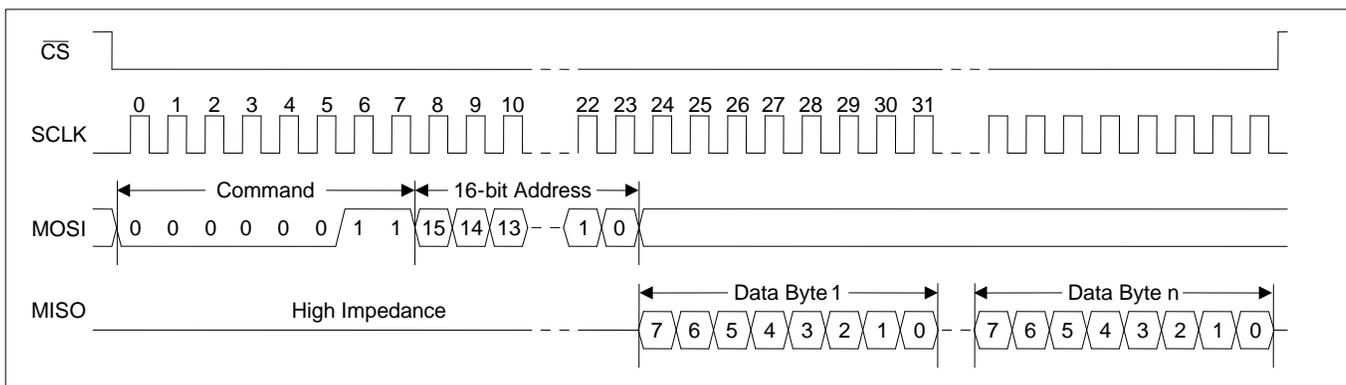

Figure 6 - SPI Read Transaction Functional Timing
**Read Transactions.** The device registers are accessible when  $EESEL=0$ . On ZL3026x devices with internal EEPROM, the EEPROM memory is accessible when the  $EESEL$  bit is 1. On ZL3026x devices without internal EEPROM, the  $EESEL$  bit must be set to 0. After driving CSN low, the bus master transmits the read command followed by the 16-bit address. The device then responds with the requested data byte on MISO, increments its address counter, and prefetches the next data byte. If the bus master continues to demand data, the device continues to provide the data on MISO, increment its address counter, and prefetch the following byte. The read transaction is completed when the bus master drives CSN high. See Figure 6.
**Read Transactions.** After driving CSN low, the device transmits the read command followed by the 16-bit register address. The external EEPROM then responds with the requested data byte on MISO, increments its address counter, and prefetches the next data byte. If the device continues to demand data, the EEPROM continues to provide the data on MISO, increment its address counter, and prefetch the following byte. The read transaction is completed when the device drives CSN high. See Figure 6.